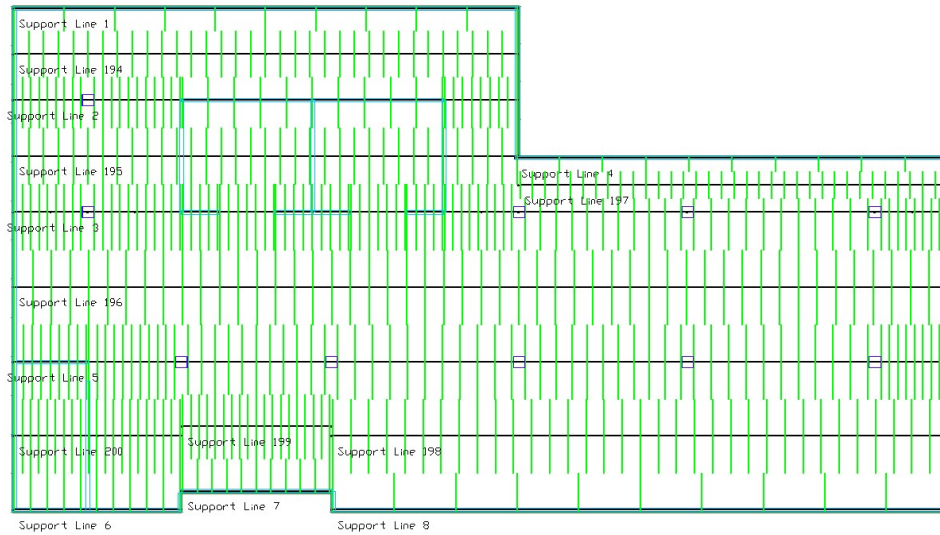

Figure 4.2-9 - Support Lines and Design Sections Results in X-direction
- **Figures 4.2-9 and 4.2-10** shows support line example results for the graphical code check.